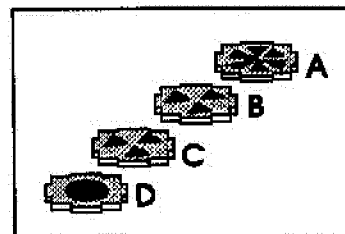

Figure 3
□ Step 3: Assemble the lower-body. [Refer to Figure 3]
Locate cross-sections A, B, C, and D. Remove any remaining cut-outs. *Figure 3* illustrates the correct assembly order from top to bottom. This order is crucial for proper deployment of the recovery system.